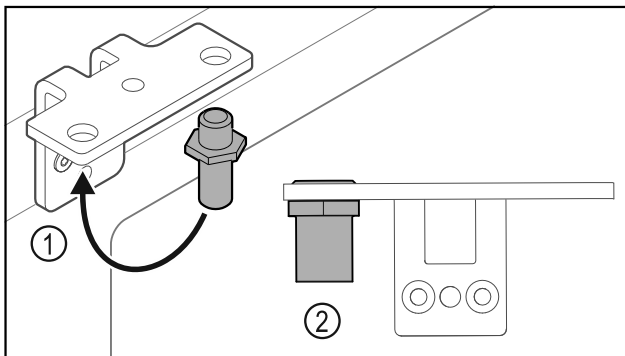

Fig. 33
- ▶ Put the pin back into the hinge Fig. 33 (1).
- ▶ Tighten the pin Fig. 33 (2) to a **torque of 12 Nm**.